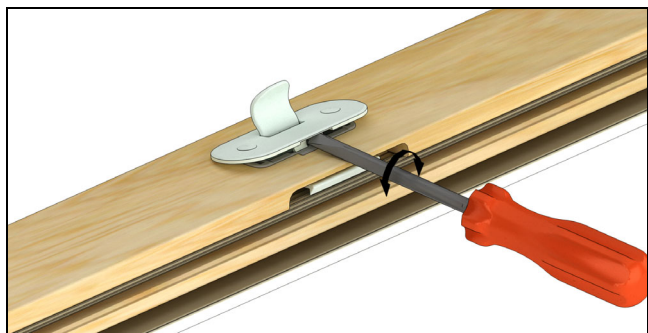

Figure 82
2. Remove escutcheon by placing a flat screwdriver in notch at the bottom between the escutcheon and plastic housing. Use a turning motion to release the escutcheon. See Figure 82.